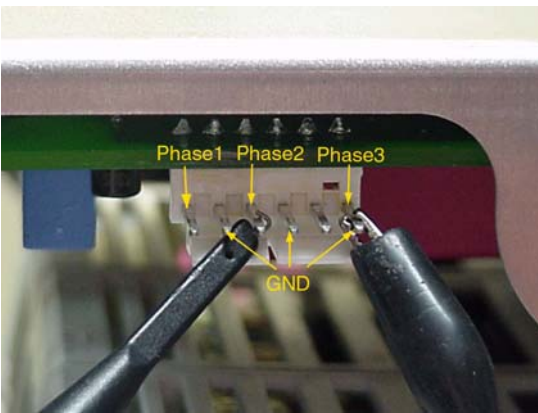

Figure 4-34 Soft-Start Phase 2 Output Pulse Measurement
12. Hook the scope test probe to phase 2 of the Soft-Start output pins, as shown in Figure 4-34. Repeat steps 8 to 11.